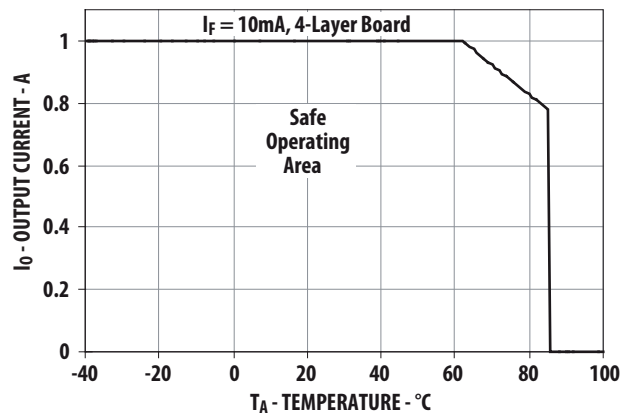

Figure 1. Maximum Output Current Rating vs Ambient Temperature (ASSR-1510-003E)
- For derating, refer to Figure 1, 2, 3 and 4.
Derating curves are shown in Figures 1, 2, 3 and 4, specifying the maximum output current allowable for a given ambient temperature. The maximum allowable output current and power dissipation are related by the expression $R_{ss}=P_o(max)/(I_o(max))^2$ from which R_{ss} can be calculated. Staying within the safe area assures that the steady state MOSFET junction temperature remains less than $125^{\circ}C$.